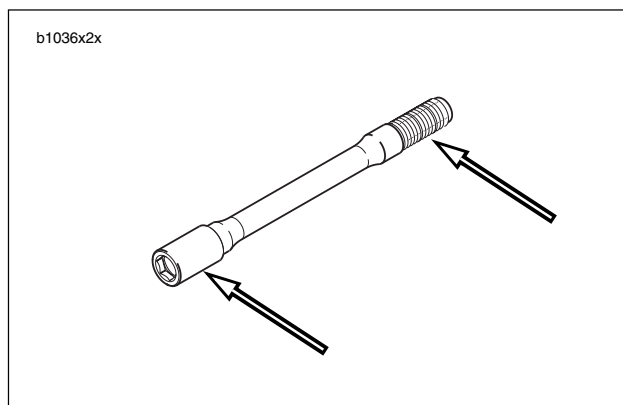

Figure 6-42. Anti-Seize Lubricant Location
4. See Figure 6-42. Coat rear axle with ANTI-SEIZE LUBRICANT.